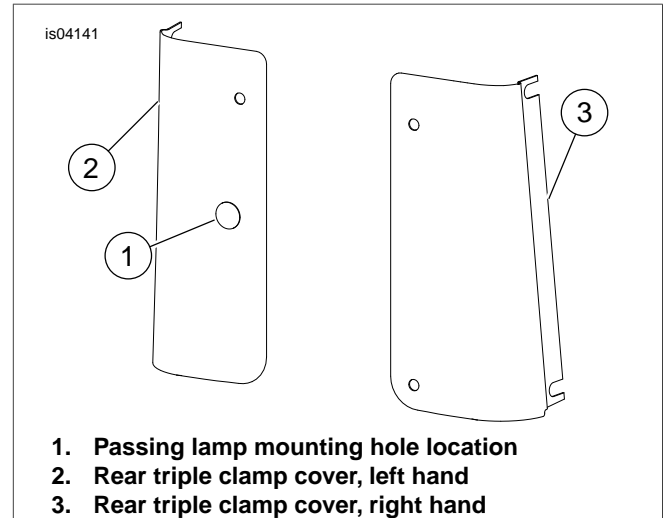

Figure 1. Chrome Fork Side Cover Kit
2. See Figure 1. If so equipped, remove the passing lamp switch from the left hand side triple clamp cover mounting hole (1).
3. For Kit 66441-05, start with one side and remove the screws fastening the trim strip and rear triple clamp cover (2). Insert the new rear triple clamp cover and the original